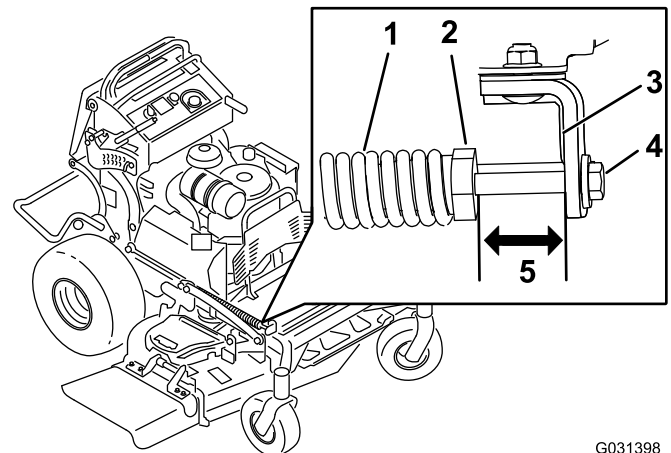

Figure 85
2. Check the length between the spring nut and the rear side of the welded mount bracket (Figure 85).
3. Ensure that the length is between 47 to 50 mm (1.8 to 2 inches) (Figure 85).
4. If needed, adjust the distance by adjusting the bolt on the front of the mount bracket (Figure 85).